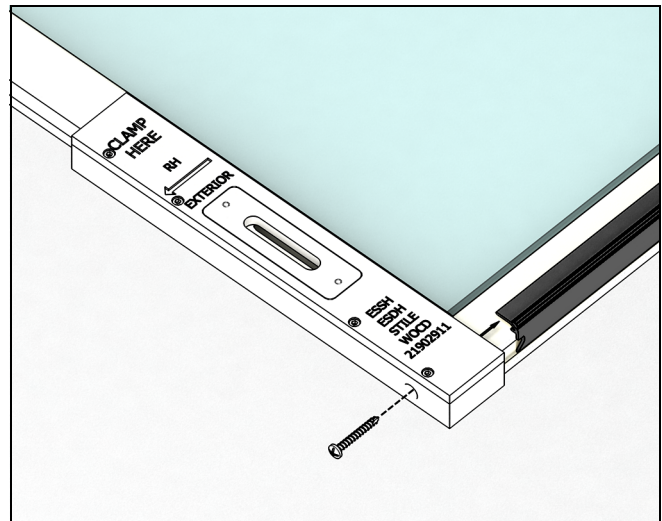

Figure 2
6. Using a Phillips screw driver, manually fasten the bottom, inside of the WOCD stile jig to the bottom, inside of the top sash with the tilt pin screw. See Figure 2.